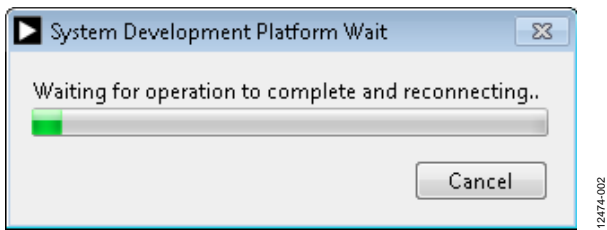

Figure 2. Connection Message
2. Click **Start > All Programs > Analog Devices > AD56x6R Evaluation Software > AD56x6R Evaluation Software.exe** to run the software. When the software connects to the evaluation board, the message in Figure 2 displays.